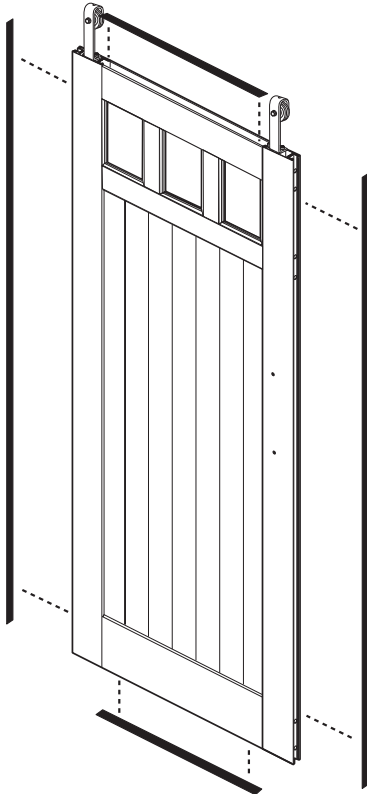

Figure 11
Snap the 2 side finishing strips (M) into place. Snap the top and bottom strips (N) into place. See Figure 11.